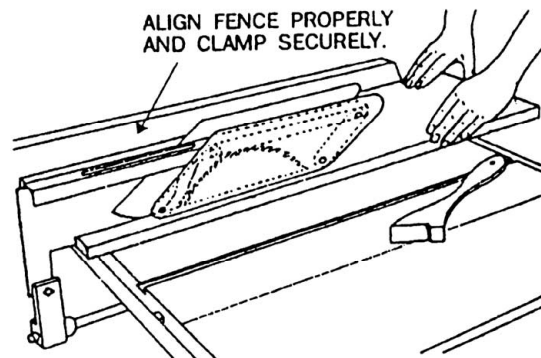

Figure 38
1. Ripping is a sawing process where the workpiece is fed with the grain into the saw blade using the fence both as a guide and a positioning device to ensure the desired width of cut (Figure 38).